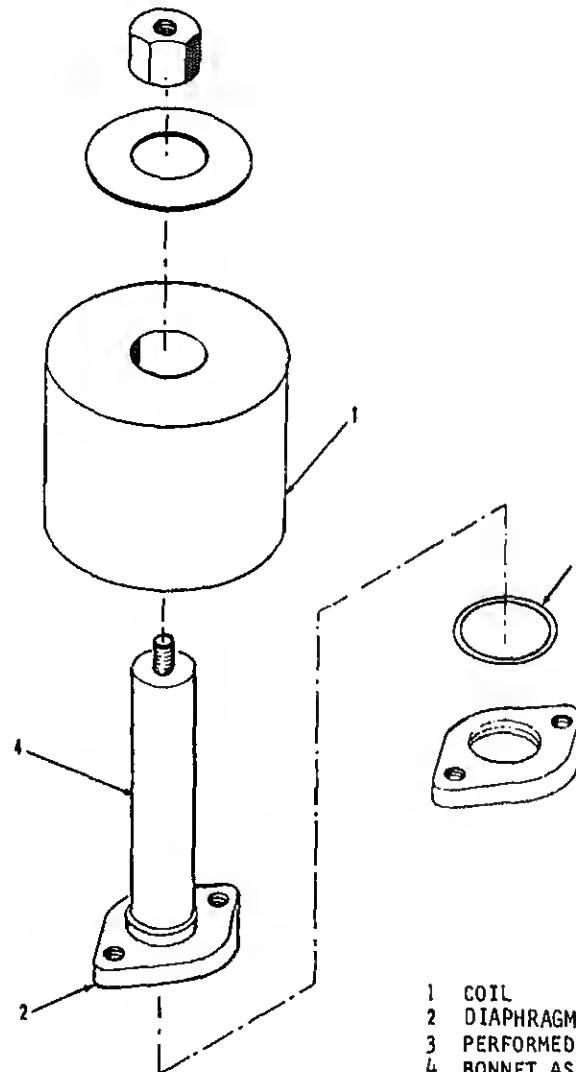

Figure 6-3. Solenoid valve, exploded view
a. General. Replaceable parts are the coil bonnet assembly, diaphragm and the preformed packing. See figure 6-3.
(1) Remove electrical connector from solenoid valve leads.
(2) Remove nut on top of valve housing. Lifting housing and coil assembly from bonnet assembly.
(3) Remove coil from housing.
(4) Install coil bottom plate edge upward.
(5) Install lower coil sleeve flange at bottom. Install coil with lead exits at bottom.
(6) Install coil spring with edges upward and upper coil sleeve.